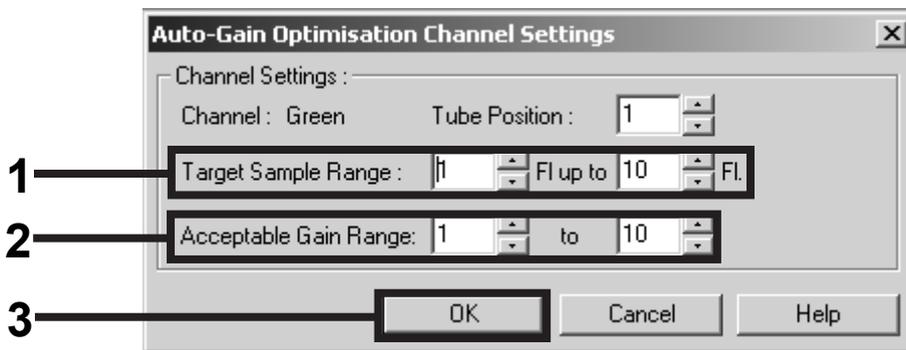

Figure 7. Adjusting the gain optimization for channel Green. These adjustments need to be done for each channel (Green, Yellow, and Orange).
- Adjust the gain optimization. Choose a "Target Sample Range" from 1 FI up to 10 FI and an "Acceptable Gain Range" from 1 to 10 (Figure 7, example shown for channel Green). These adjustments need to be done for each channel (Green, Yellow, and Orange).